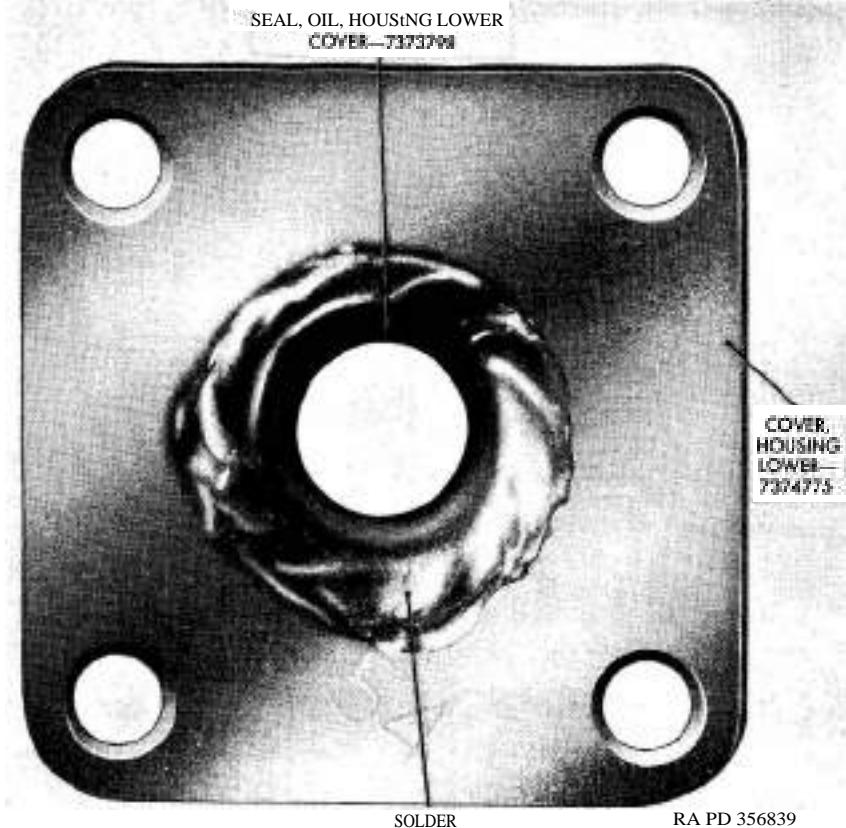

Figure 165. Housing lower cover and housing cover oil seal.
- (2) If a new oil seal is installed in a new housing lower cover, solder must be applied over the seal retainer and housing lower cover (fig. 165) to prevent lubricant leakage. Care must be exercised when applying solder because excessive heat will damage seal.
f. Install Housing Lower Cover Assembly. Position housing lower cover assembly (KK) against shims on steering gear housing and install housing lower cover screws (PP). Tighten screws.